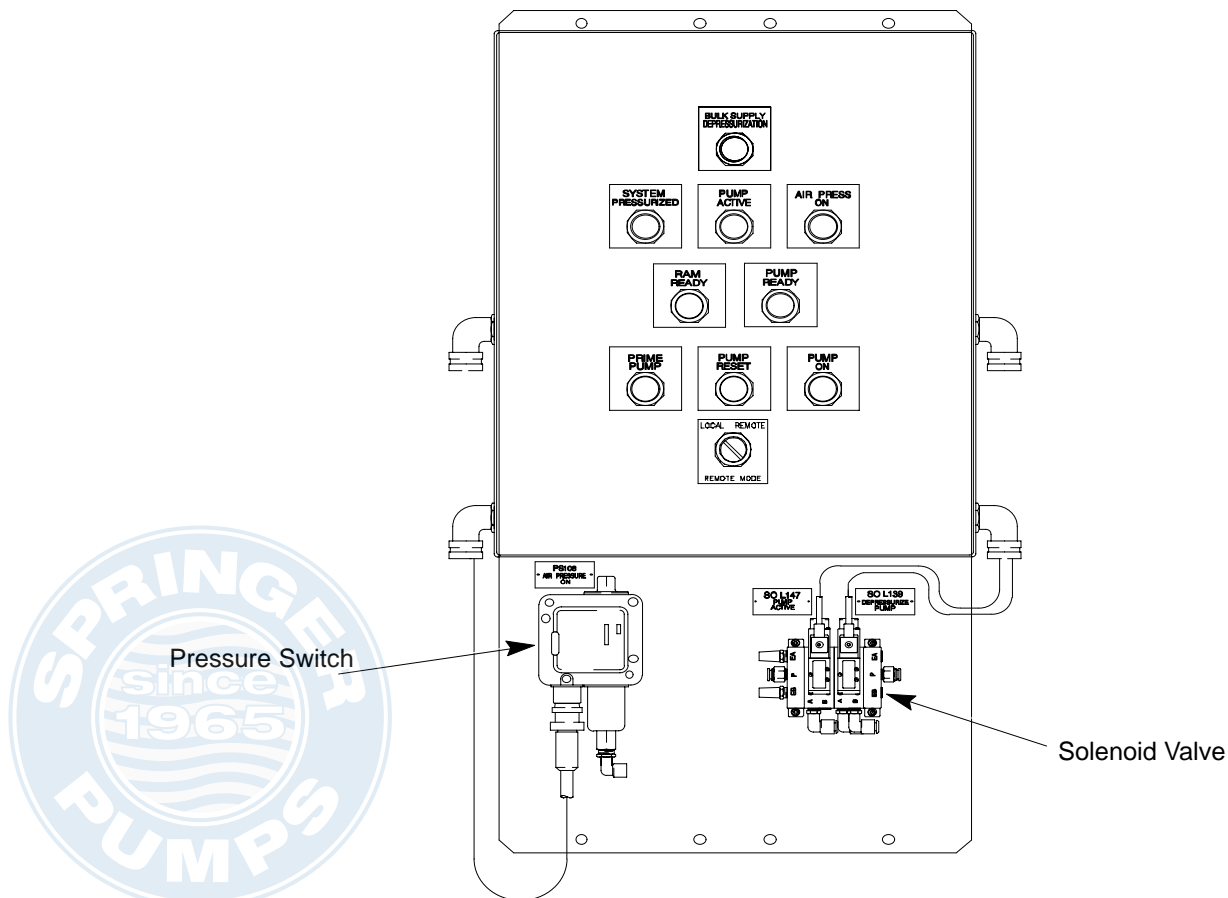

Fig. 9
3. Locate the valve assembly (203) that is attached to the mounting plate (201) below the junction box panel (217). See Fig. 9.
4. Disconnect the two cables (216) from the terminal strip inside the junction box panel (217) for the valve assembly (203) bank. For wiring information, refer to the **Electrical Diagram** on page 14.
5. Remove four cap screws (205), the lock washers (206), and the valve assembly (203) from the mounting plate (201).
6. Install the new valve assembly (203) on the mounting plate (201) using the four cap screws (205) and lock washers (206). See Fig. 9.
7. Reconnect the two cables (216) on the terminal strip inside the junction box panel (217) for the valve assembly (203) bank. For wiring information, refer to the **Electrical Diagram** on page 14.